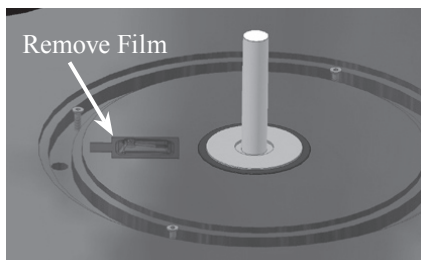

Figure 15
12. Remove the protective film from the Optical Sensor located on the Turntable Top Surface. Refer to figure 15.